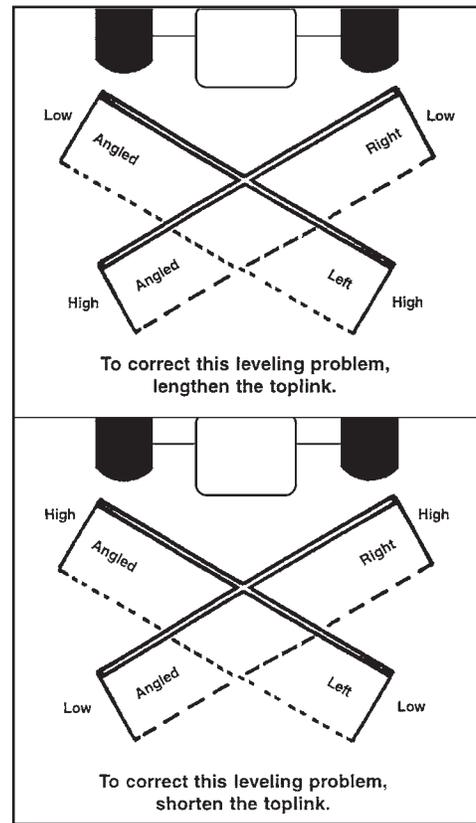

Figure 18
- If measurements are not equal, level the mounting assembly with the toplinek. Follow instructions shown in Figure 18. Then, go back to the beginning of step 5; repeat until the sweep is level.